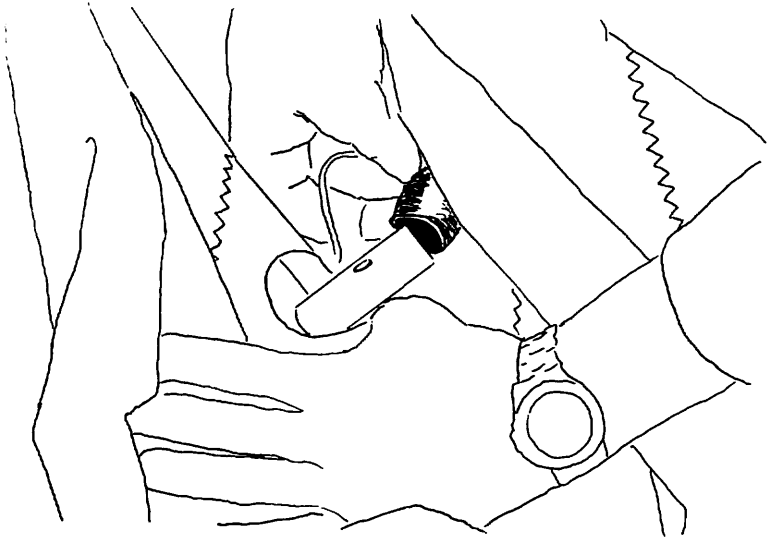

FIG 67
11) Place the last velcro around the sail near the rear end of the leading edges. Place the bag on the glider with the flag at the tail end. Install the protective rubber caps on the washout studs. (Fig 67) Lay the glider on the ground, disassemble the control bar and fold it rearwards.